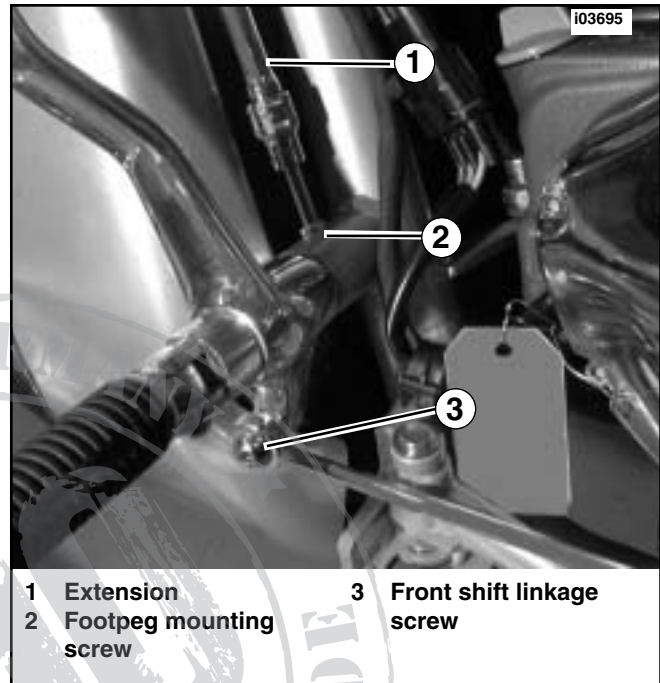

Figure 1. Remove Existing Shift Lever
2. See Figure 1. On left side of motorcycle, remove front shift linkage screw securing front of shift linkage to shift lever. Save screw for re-installation.